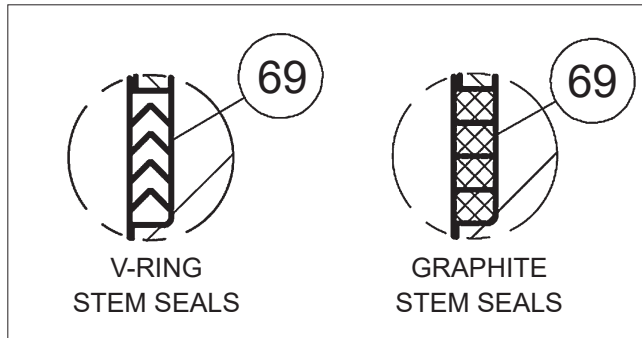

Figure 7. Stem Seal Orientations
7. Insert the stem (5) through the insert end of the body (1), being careful not to scratch the stem sealing surface; and press it gently up into the stem bore until resistance is felt from the thrust bearing. Holding the stem in place from the bottom and insert the stem seals (69) (see **Figure 7** for proper v-ring orientation), over the stem (5).